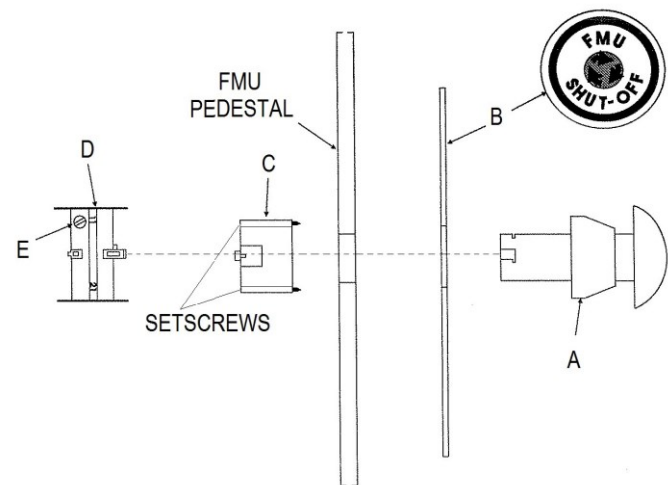

Figure 2 FMU Stop Switch Installation
4. Insert Switch Knob (A) through Label Plate (B), then insert Switch Knob (A) through hole in Pedestal from outside Pedestal (see Figure 2).
5. Engage and lock Switch Knob (A) in end of Switch Stop (C). Switch Knob (A) and Label Plate (B) should be outside FMU Pedestal, and Switch Stop (C) should be inside FMU Pedestal.
6. Tighten two setscrews in Switch Stop (C) to remove looseness.
7. Snap Switch Contact (D) on Switch Stop (C).
2. Run a black wire from the Surge Panel to one contact (E) (the Switch Contact (D) has two contacts (E)). It may be necessary to add wire to reach the FMU Stop Switch (see Figure 2).
3. Connect the black wire from the FMU power switch to the other contact (E).